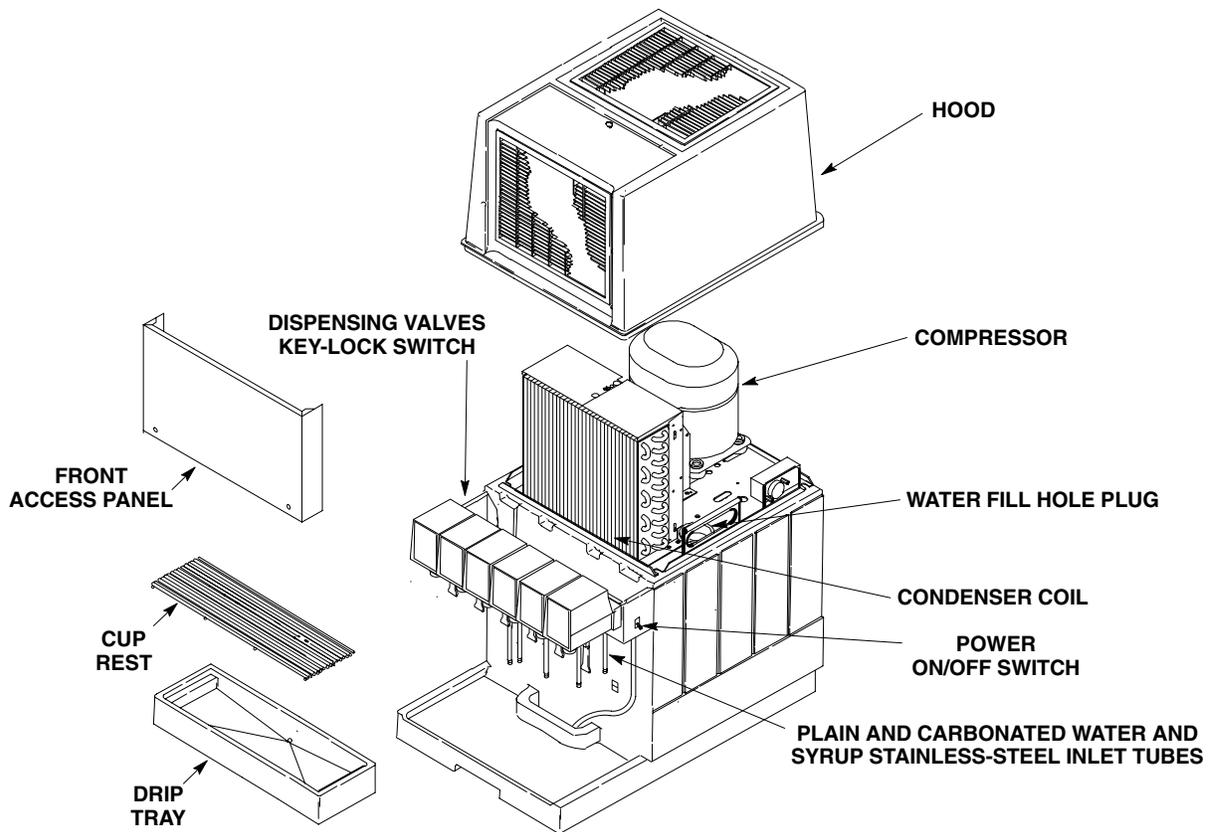

FIGURE 1. PARTS IDENTIFICATION
5. Remove Unit front access panel (see Figure 1) for access to the Unit syrup and plain and carbonated water stainless-steel connecting tubes and the Unit power switch.
7. Place Unit power switch located on right side of the Unit (see Figure 1) in the “ON” position. The refrigeration system will start and begin building an ice bank.
13. Make sure Dispensing Valves key-lock power switch on left side of the Unit (see Figure 1) is in the “ON” position, then dispense from all Dispensing Valves to bleed all air from the water systems.